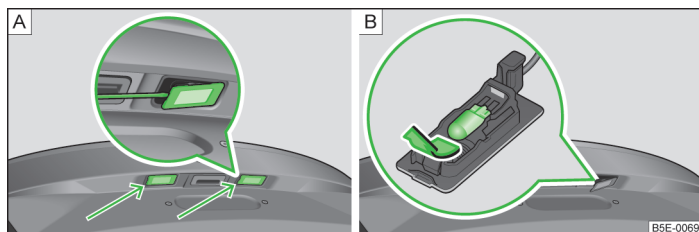

Fig. 218 Remove the number plate light/replace the bulb
- Insert a slotted screwdriver at the location indicated by the arrow » Fig. 218 - [A], press it in lightly, and unlatch the springs.
- Pull the faulty bulb out of the holder in the direction of the arrow » Fig. 218 - [B].